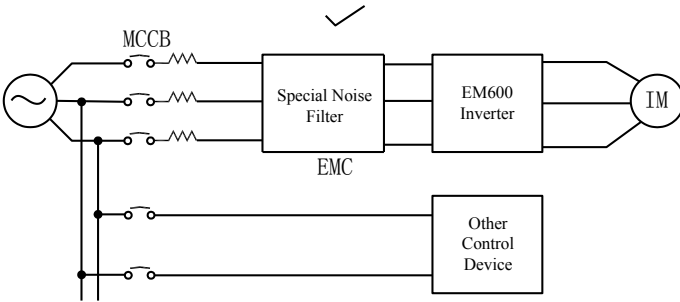

Figure 3–6 Correct Installation of Noise Filter
See Figure 3–2 for main circuit terminal block.
Internal main circuit structure of EM600 is shown in Figure 3–3.
- Correct and incorrect installation methods of noise filter (Figure 3–6 and Figure 3–7).